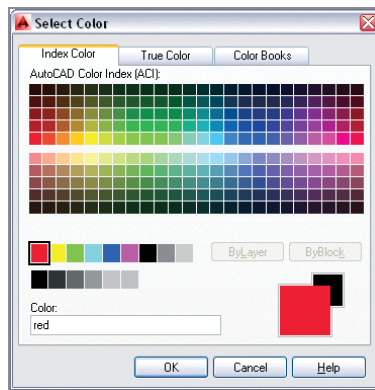

FIGURE 6.28 Selecting a layer color
9. Click Millwork-Upper's color swatch to open the Select Color dialog box. Click the larger red swatch where indicated (see Figure 6.28) and click OK.